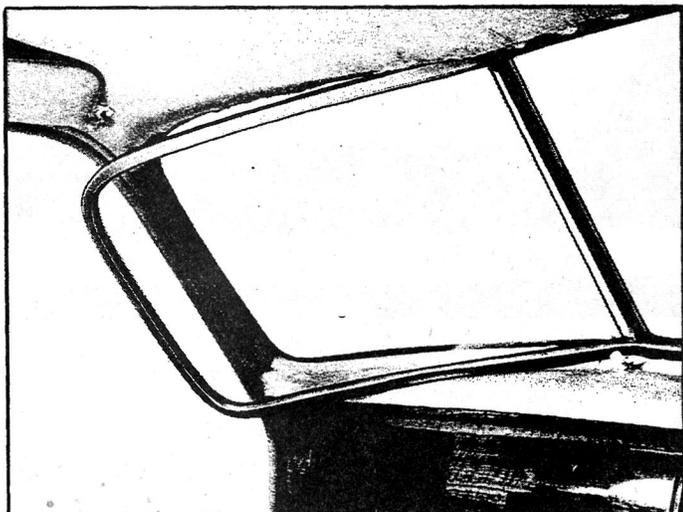

Figure No. 88
1. Tape instrument panel with adhesive tape as shown in Figure No. 88 as precaution against scratching instrument panel.